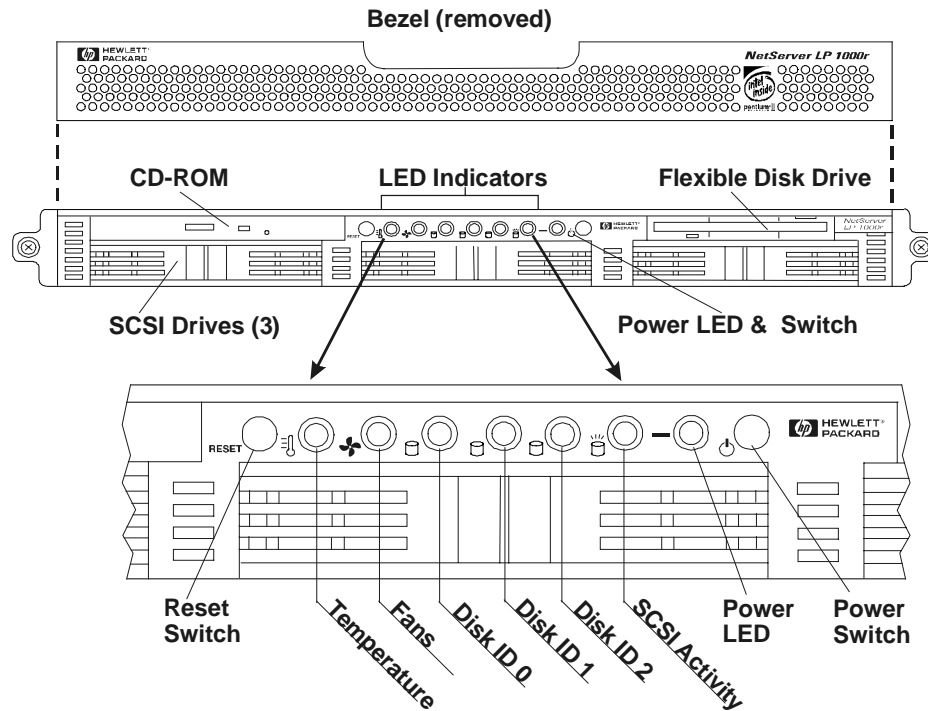

Figure 1-1. Front Panel
Before operating the HP Netserver LP 1000r, familiarize yourself with the Netserver's controls, ports, and indicators, as shown in Figures 1-1 through 1-3.
2. Press the Power push-button on the front control panel. See Figure 1-1.